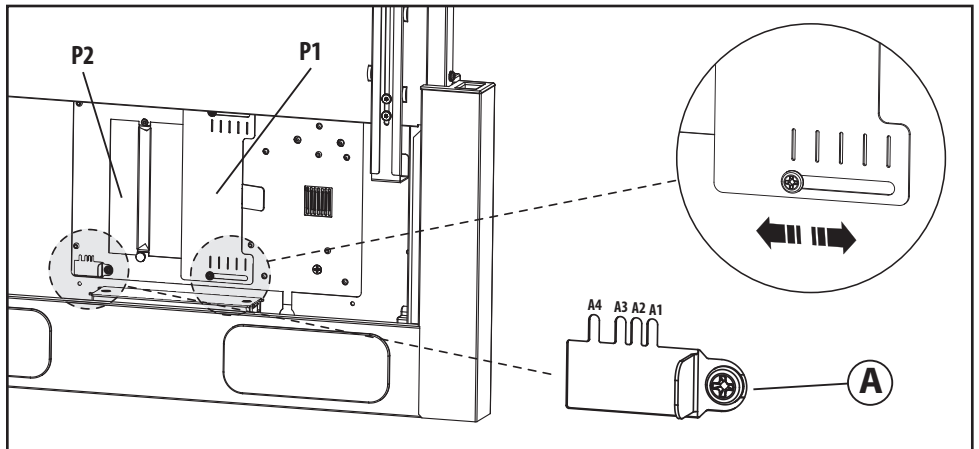

Fig.6
• Adjusting the damper for proper extraction (Fig.6):